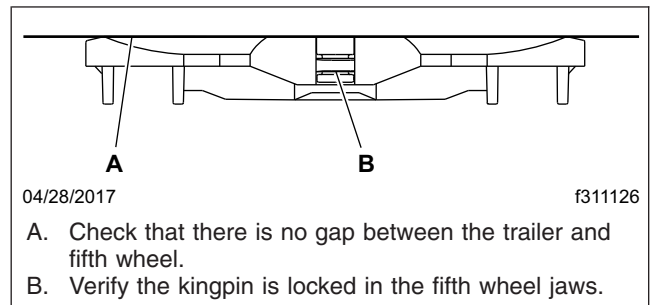

Fig. 17.7, Coupling Inspection View
10.1 Verify there is no gap between the bottom of the trailer and the fifth wheel as shown in Fig. 17.7.
10.2 Make sure the jaw and wedge of the fifth wheel are locked in place behind the kingpin as shown in Fig. 17.7.